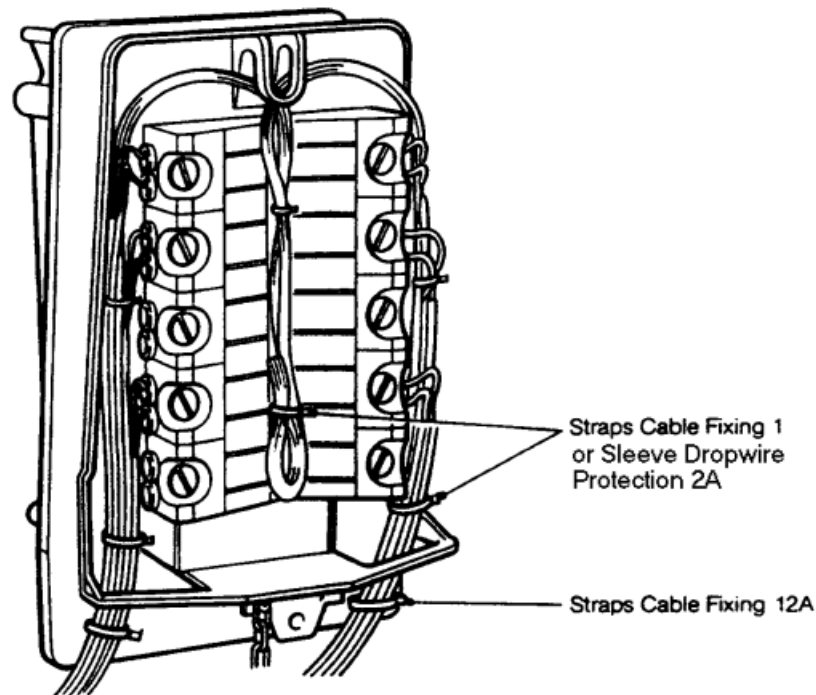

Figure 8 Approximate Position of Restraining Straps in BT 76/86
5. If termination is required, prepare the remaining Green/Black pair as previously described. If it is not to be terminated immediately, take it around the top of the block, through the plastic loop (fitted to newer blocks, see figure 8 Note 1), and down the centre of the block (see figure 8 Note 2) to the bottom. Cut the conductors off 80 mm past the bottom rocker. This allows future use of the pair in any rocker, if required, without the need to install another dropwire.
BTs 76, 86 Spare pairs should be left with enough length to correctly terminate on the furthest termination, neatly laid up the side channels of the BT over the top connector and formed down the centre. Restrain the conductors within the block with Straps Cable Fixing 1 or Sleeves Dropwire Protection 2A. Bend excess "tails" down and tuck them neatly behind the dropwires (as shown in Figure 8).
4. Restrain the conductors within the block with Straps Cable Fixing 1 as shown in Figure 8.